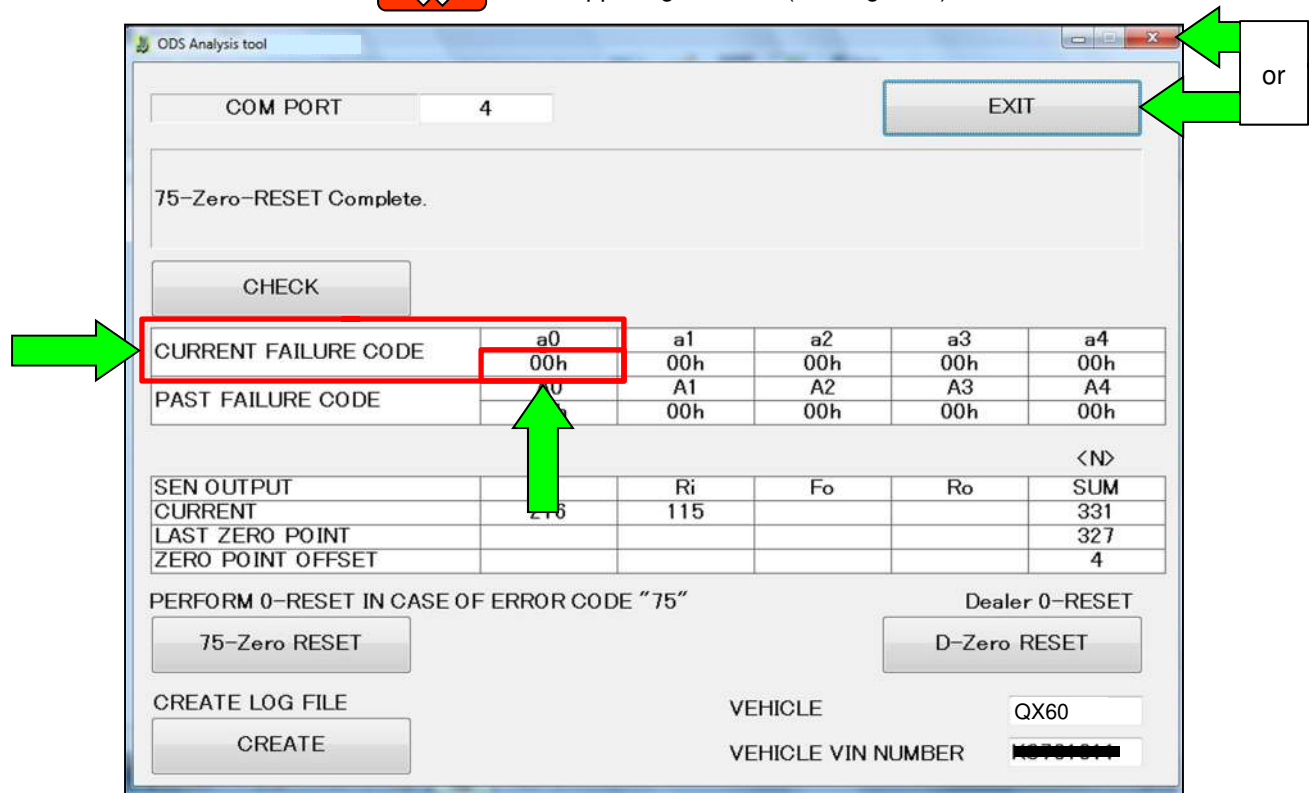

Figure 9
16. When the screen in Figure 9 displays, the 75-zero reset process is complete.
17. Select either EXIT or the  in the upper right corner (see Figure 9).